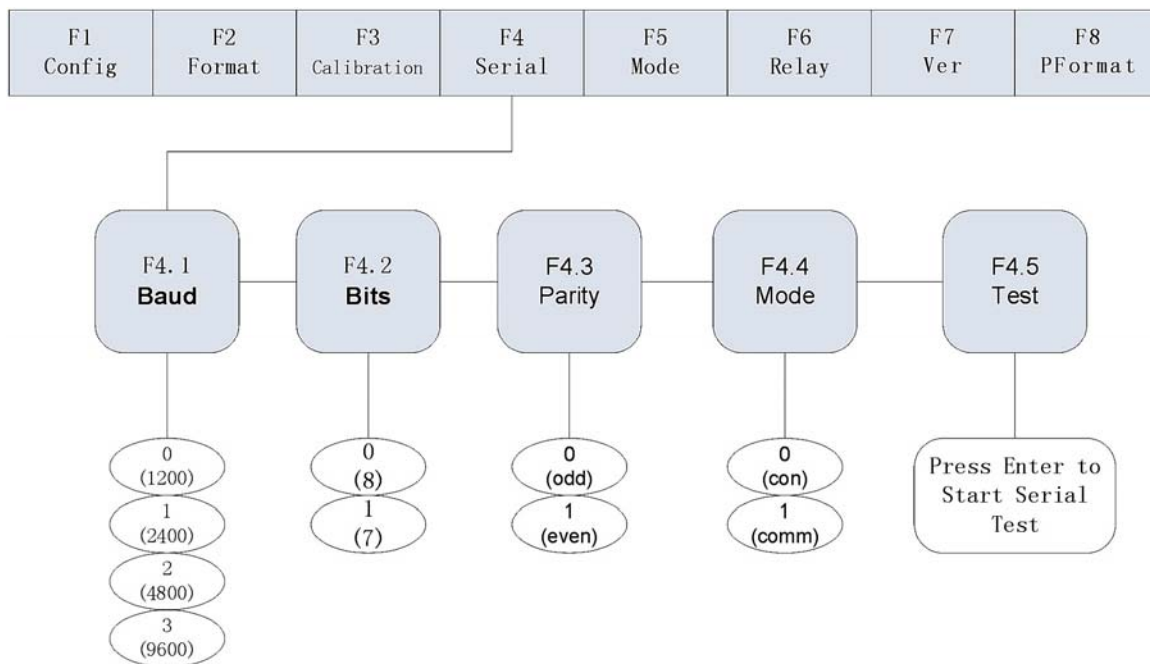
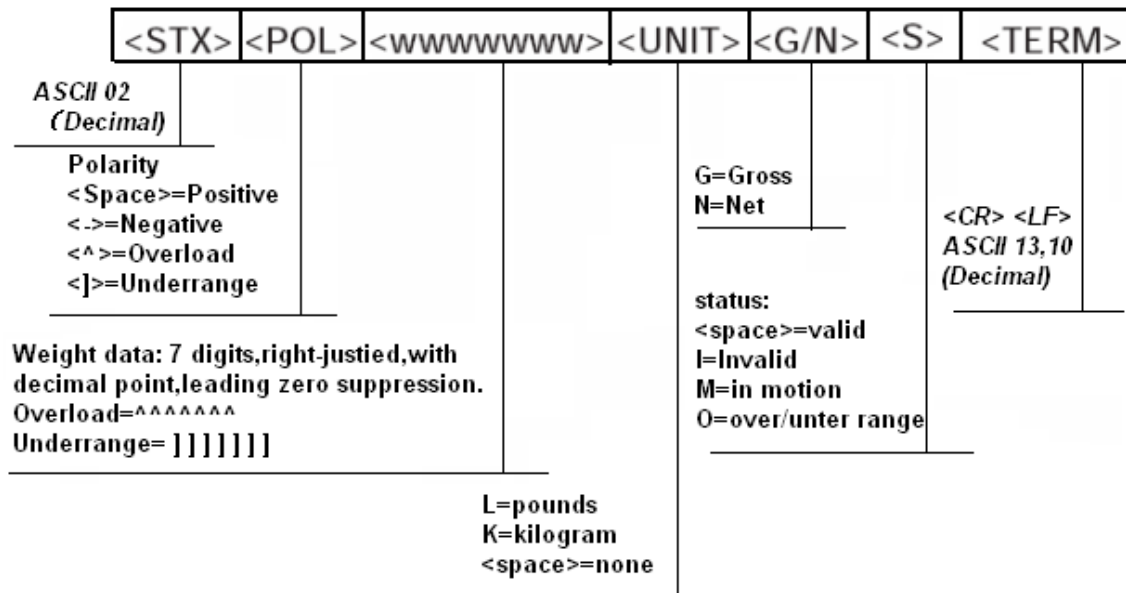

Fig. 8-1 Serial Communication Menu
Fig. 8-2 Format of Continuous Transmission
- (1) Set indicator to Configuration mode. Display shows "F1"
- (2) Press  until display shows "F4" (see Fig. 8-1). Press  to go to F4 Menu. Display shows "F4.1".
- (3) When display shows "F4.1", press  until display shows "F4.4".
- (4) When display shows "F4.4", press  to show serial communication code. Use  to set serial communication code to 0 (data transmitted continuously).
- (5) Turn off the J1 switch to exit from the configuration mode and enter into weighing mode. After selecting continuous transmission mode (F4.4=0), indicator transmits data continuously according to Fig. 8-2.
- (1) Set indicator B to Configuration mode. B display shows "F1".
- (2) Press \blacktriangleright until B display shows "F4" (see Fig. 8-1). Press \blacktriangledown to go to F4 Menu. B display shows "F4.1".
- (3) When B display shows "F4.1", press \blacktriangleright until B display shows "F4.5".
- (4) When B display shows "F4.5", press \blacktriangleright . B indicator sends command to A indicator, and receives response data from A indicator. There are following possible